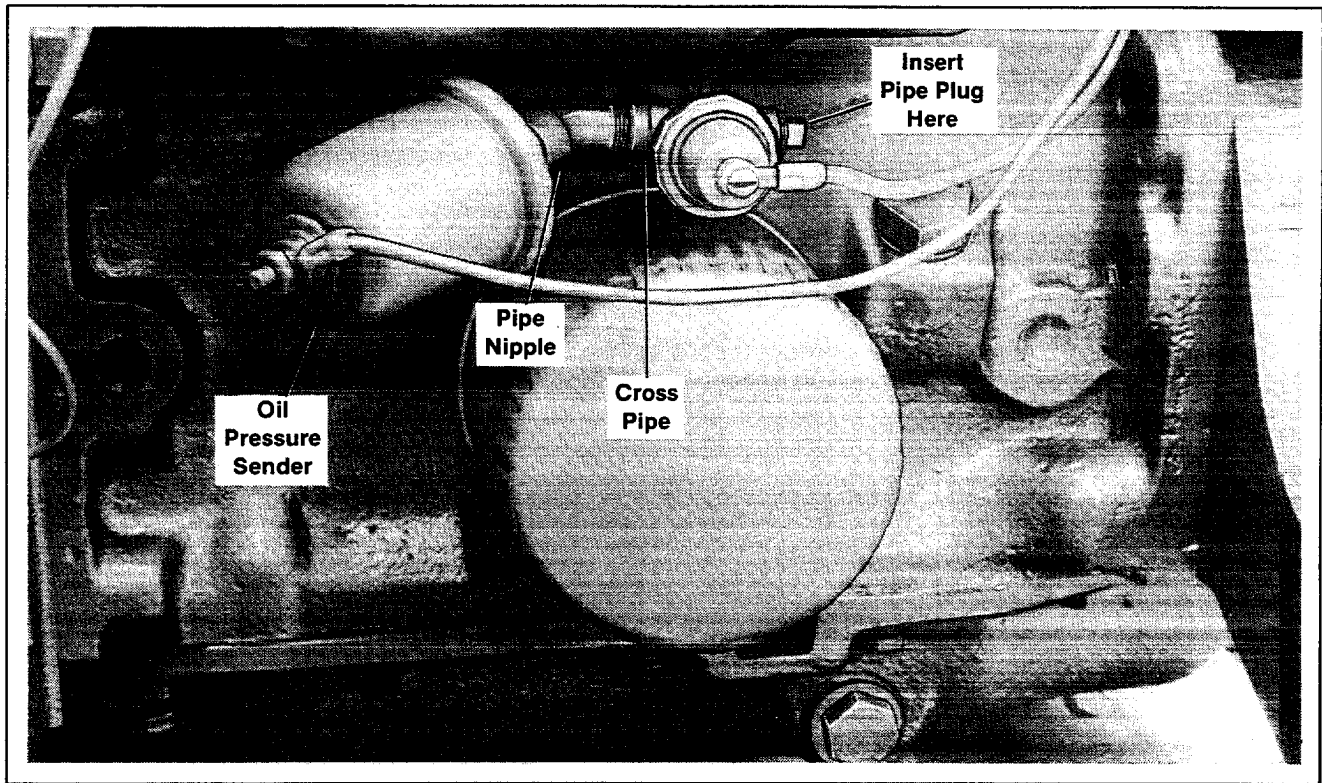

Figure 6. 10RMOY, Mounting of Oil Pressure Sender
13. Attach oil pressure sender. Refer to Figures 6 and 7 for the mounting of the low oil pressure senders. Use a high temperature thread sealant at all pipe thread connection points.